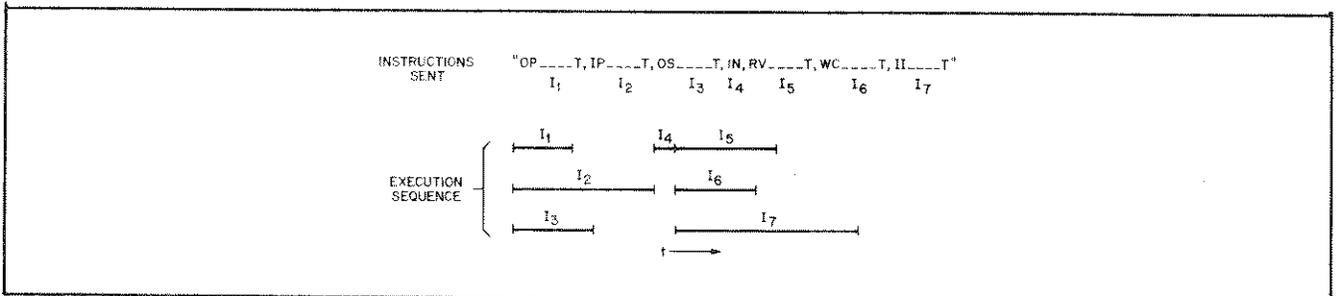

**Figure 5-7. Like Instructions in Parallel Mode**
1. Only one instruction of each type (except OI and II) can be running at any one time. Thus, instructions of the same type run in sequence. Figure 5-7 illustrates how two OP's and two OI's would run in the parallel mode.